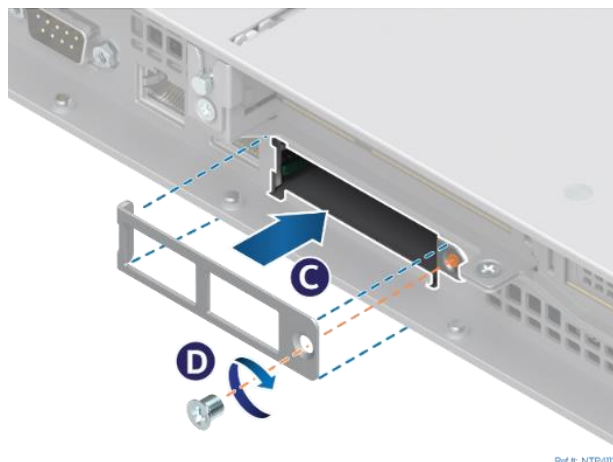

Figure 42. OCP* Mounting Bracket Installation
6. Locate and mount the OCP* module mounting bracket to the system back panel (see Figure 42)